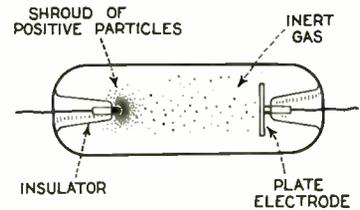

Fig. 4. Illustrating the operation of a gaseous conduction half-wave rectifier
wave rectifier of this type as in Fig. 4.
- FIG. 4 A -
- FIG. 4 B -
The same as Fig. 4-A but with an R.F. choke in the plate circuit